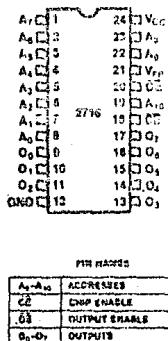

Figure 1. Pin Configuration
1. AC Timings measured $V_{OH} = 2.0 \text{ V}_{DL} = 2.0$, $V_{OL} = 0.8$, and with load circuit of Figure 1.
2. Chip Select (CS) and Command/Data (C/D) are considered as Addresses.